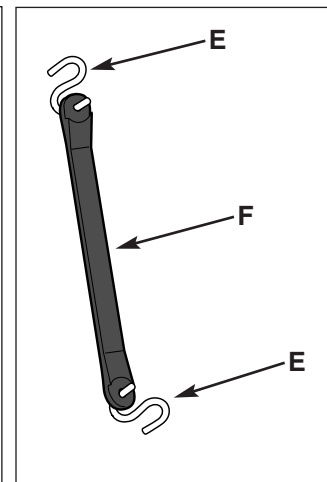

Figure 4
- Install the two "S" hooks (E, Figure 4) on the ends of the mounting strap (F).